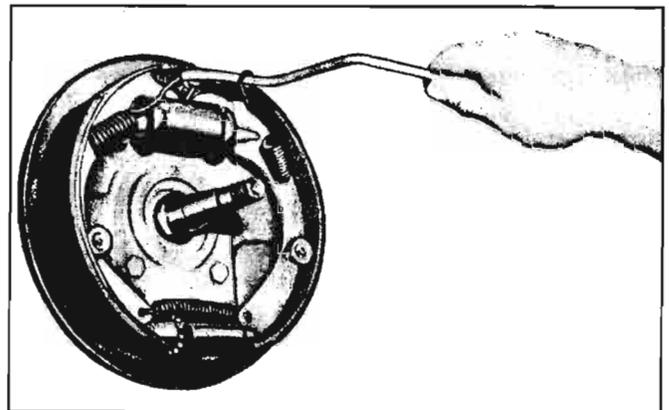

Fig. 5-19—Installing Brake Shoe Return Spring
8. Install guide plate over anchor pin. Install springs on shoes and, using Tool J-8049 (fig. 5-19), position spring hooks over anchor pin. Springs should be replaced if they appear distorted or if strength is doubtful.